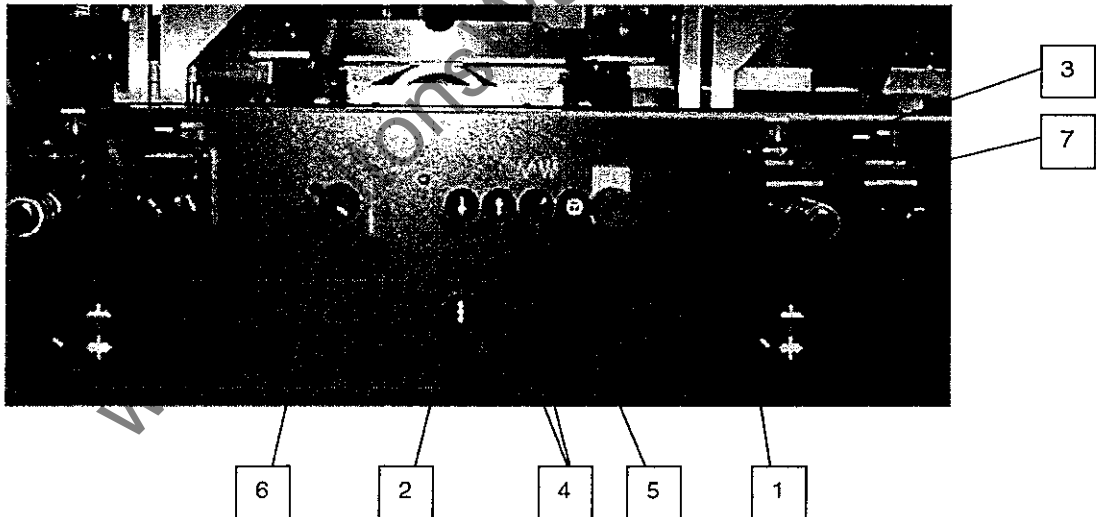

Figure 5.5
5.5 Setting First Top Head (Figure 5.5)
5.7 Setting Second Top Head, Pad Pressure and Chipbreaker (Figures 5.5 and 5.6)